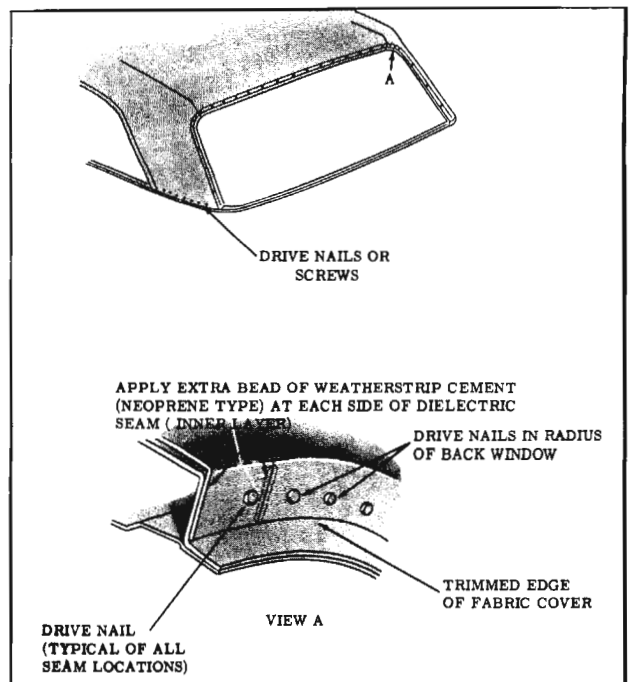

Fig. 16-173 Drive Nail Installation
- 15. At windshield and back window openings cement cover into opening as shown in View "A", Fig. 16-173.
Apply extra bead of cement to each side of dielectric seam between fabric cover and roof panel at windshield and back window openings. (View "A", Fig. 16-173)
- 16. Install drive nails at windshield and back window openings. (View "A", Fig. 16-173 shows typical drive nail installation.)
18. Trim off material at windshield, back window, and rear quarters. View "A", Fig. 16-173 shows where trimmed edge should occur in openings.